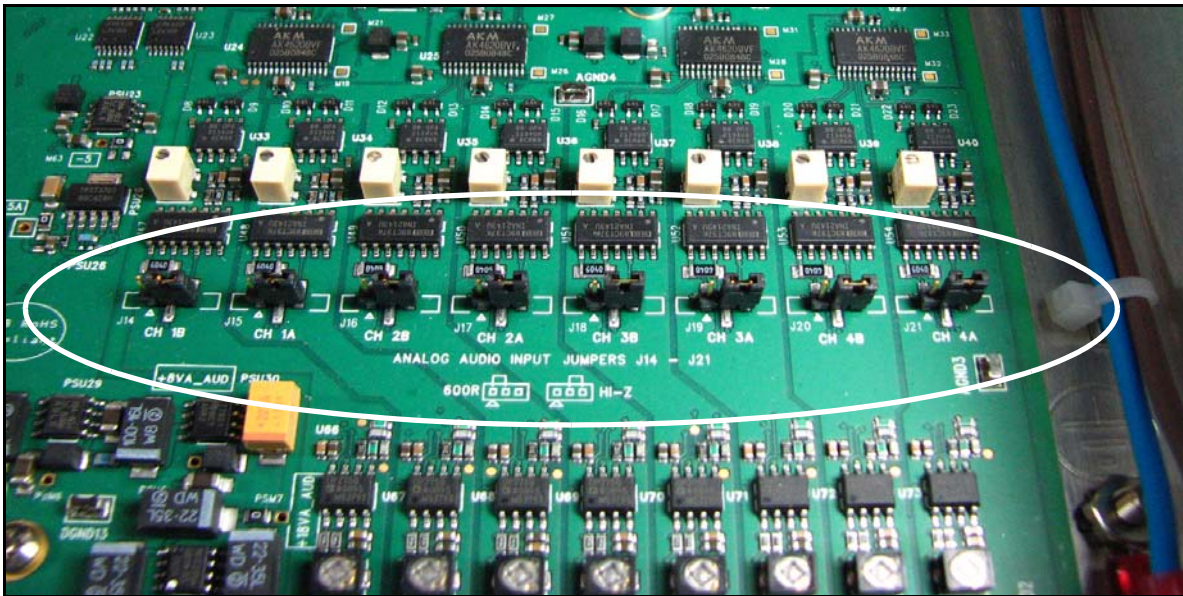

Figure C-20 Analog Audio Input Jumpers J14 to J21
The analog audio input on the X50 can be set to either **600Ω** or **Hi-Z** impedance (see Figure C-20 on page 118). There are eight jumpers for this purpose, located near the rear of the main board inside the X50. (The default setting is **Hi-Z**.) The diagram on the circuit board shows how to align the jumpers.
- 2 Set the jumpers as required (Figure C-20).